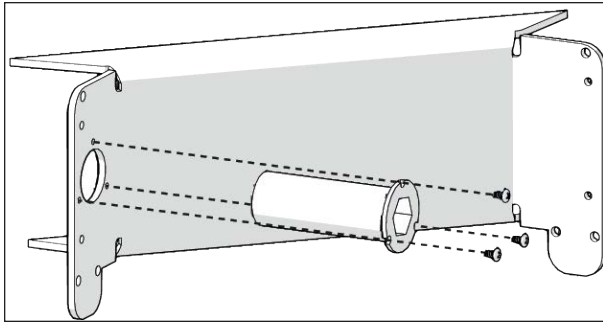

FIGURE 54: HEXAGONAL GUIDE BUSHING INSTALLATION
1. Install an hexagonal guide bushing into each corner bracket support (the ones with a hole) using a Phillips screwdriver and three #4 x 3/16" round head screws, see Figure 54.